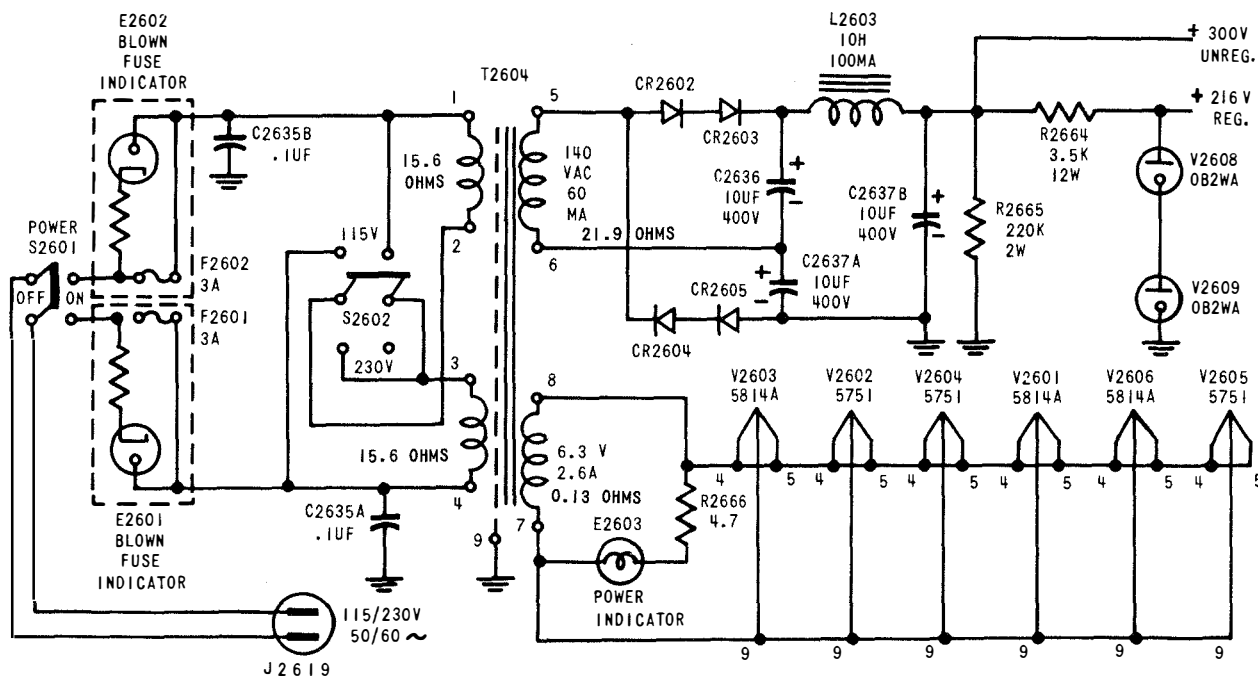

Figure 2-20. Schematic Diagram of Power Supply of Electronic Frequency Converter CV-243A/FCC-3
e. **POWER SUPPLY CIRCUITS.** Figure 2-20 shows the power supply circuits for the Electronic Frequency Converter CV-243A/FCC-3. Blown fuse indicators E2601 and E2602 are neon lamps that receive the line voltage and light when the fuse they are connected across are blown. A DPDT toggle switch S2602 changes the tap connections of the power transformer T2604 for 115 or 230 volt use. On 115 volt operation, the two primary windings are in parallel and on 230 volt operation the two windings are placed in series. A 47 ohm dropping resistor R2666 increases the life of the power indicator lamp E2603. A silicon diode type voltage doubler power supply is filtered by a 10 henry choke L2603 and a 10 mf capacitor C2637B with a 220,000 ohm bleeder resistor R2665. The output of this supply is +300 volts unregulated. A +216 volt regulated voltage is obtained by the two 0B2WA type tube voltage regulators V2608 and V2609 and 3500 ohm dropping resistor R2664. The +300 volts is supplied to the amplifier circuits through decoupling resistors and capacitors.